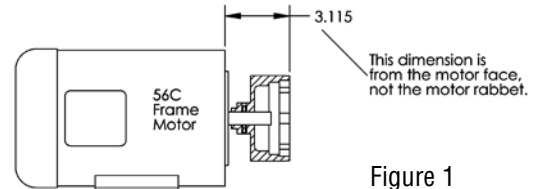

Figure 1
2. Slide drive magnet assembly (item 10) onto the motor shaft until it is between 3.110" and 3.120" as measured from the motor face to the top of the drive magnet assembly. See Figure 1. Align cone point set screw (item 10B) with key slot on the motor shaft and tighten both set screws with a 5/32" Allen wrench to 140 in-lbs. (15.8 N-m).
3. Carefully slide the pump assembly over the drive magnet assembly. Orient the discharge port to either the 12 or 9 o'clock position. Make sure rabbet (step) on motor is fully seated into the motor adapter (item 11). Align bolt holes in motor adapter and motor. Install (4) bolts and washers (items 14A, 14B, 14C) from hardware package.
If the drive magnet assembly (item 10) is to be replaced, install as follows. On a 56C motor frame, slide the drive magnet assembly (item 10) onto the motor shaft until it is between 3.110" and 3.120" as measured from the motor face to the top of the magnet assembly. See figure 1. Align cone point set screw (item 10B) with key slot on the motor shaft and tighten both set screws with a 5/32" Allen wrench to 140 in-lbs. (15.8 N-m).